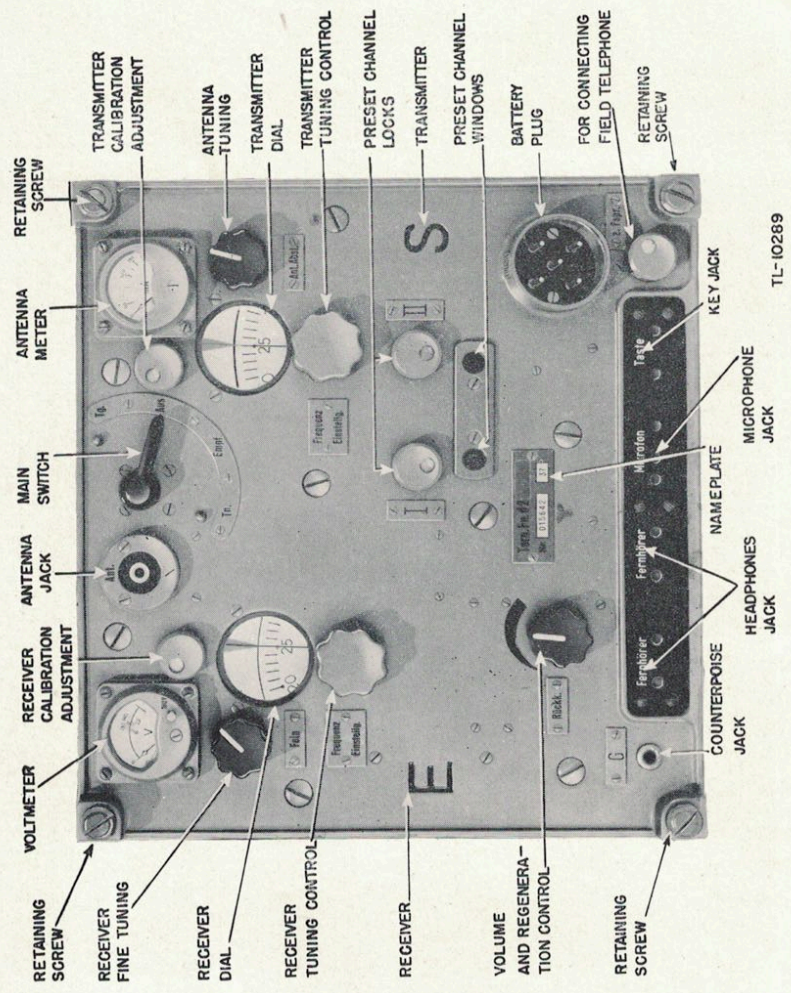

Figure 4. German radio set Torn. Fu. d2., removed from case, front view.
NOTE: Adjust the value of the dropping resistor so that the filament voltmeter reading does not exceed 2.2 in any position of the control switch (fig. 4). The value of this resistor is approximately $\frac{1}{2}$ ohm on **Tg.** and **Tn.** and approximately 1 ohm on **Empf.** This adjustment will lengthen the life of the tubes by preventing the application of excessive voltage to the filaments of the tubes.
(2) Connect the battery plug to the five-contact plug on the lower right of the set. Do not force this plug as it will only plug in one way. (Refer to fig. 4 for the location of jacks and controls.)
(a) Turn the transmitter tuning control until the desired channel number, either **I** or **II** appears in its window below the tuning control (fig. 4). **I** appears in the preset channel window on the left and **II** in the one on the right.